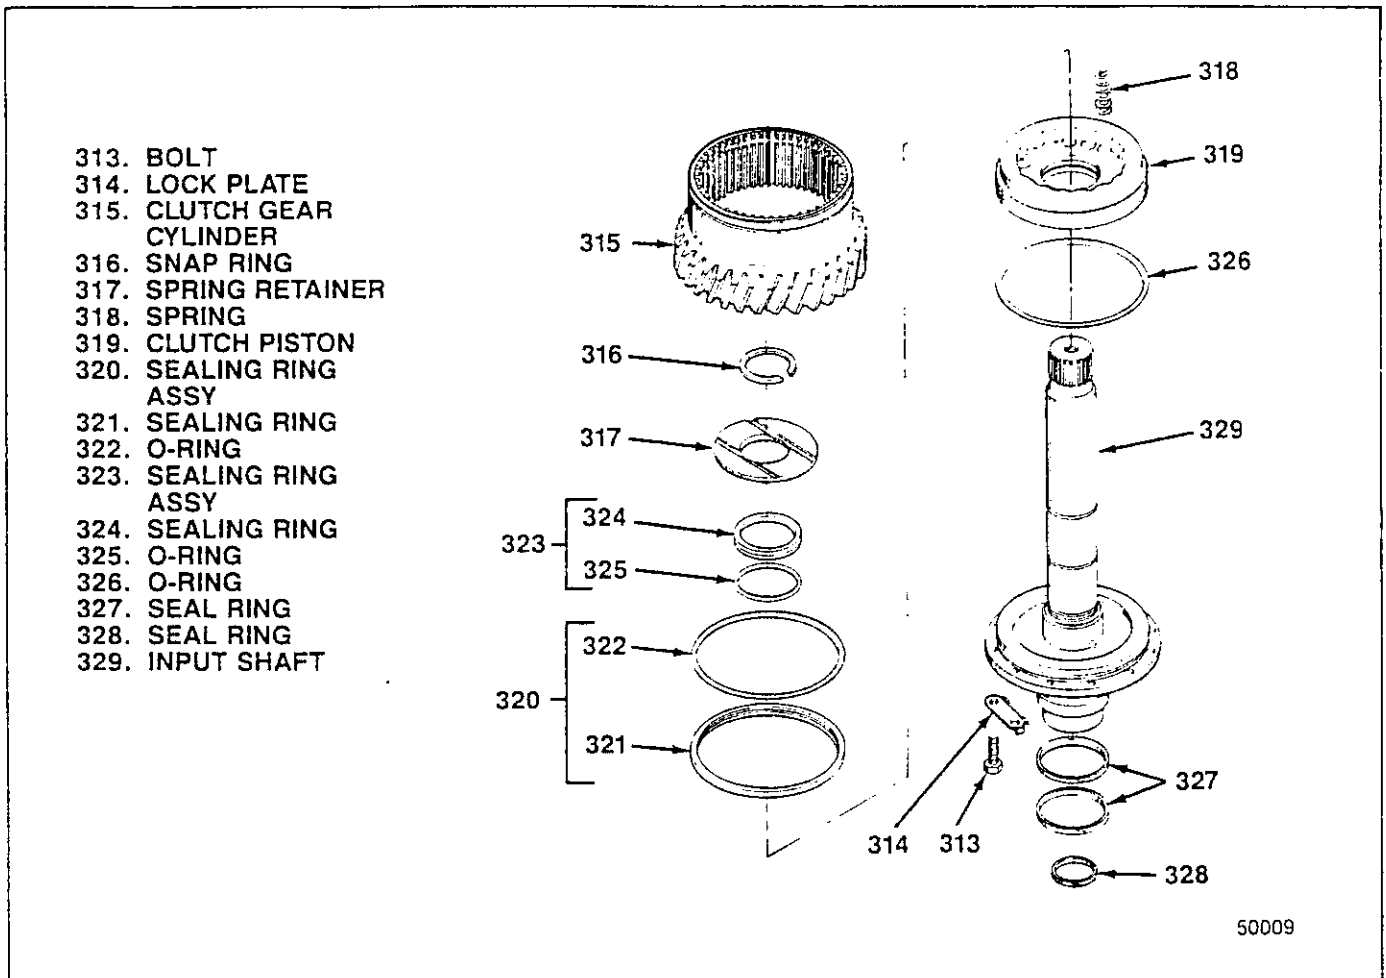

Figure 5-5. Input Clutch Cylinder and Piston
**5-9. ASSEMBLY OF CLUTCH PISTON AND CYLINDER.** Assemble input clutch piston and cylinder as follows (see figure 5-5):
1. Install seal rings (328 and 327) and o-ring (326) in grooves on input shaft (329) and lock in place.
2. Install sealing ring assembly (323), consisting of o-ring (325) and sealing ring (324), in groove in ID of clutch piston (319). Install sealing ring assembly (320), consisting of o-ring (322) and sealing ring (321) in groove in OD of clutch piston.
3. Install clutch piston (318) on input shaft (329) with sixteen spring holes facing away from shaft flange. Seat piston against shaft flange.